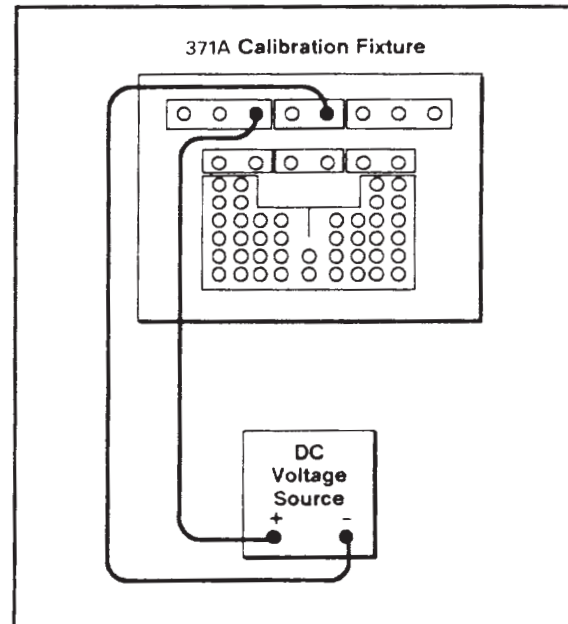

Figure 4-3. Setup for determining low voltage measurement accuracy.
1. Connect the voltage source between the HIGH CURRENT SENSE terminal and the COMMON SENSE terminal by using two long patch cords as shown in Figure 4-3.